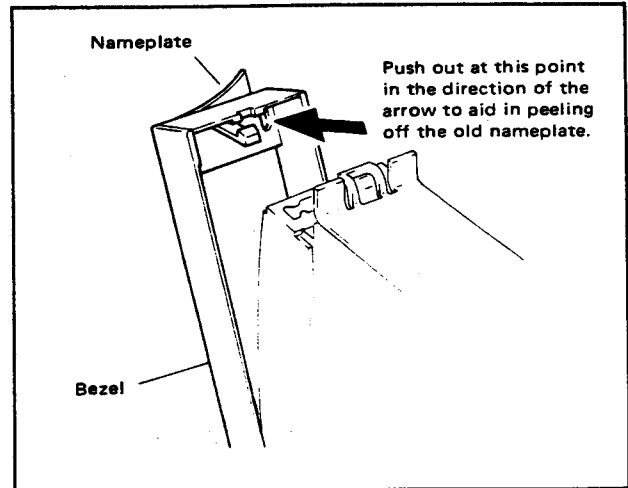

Figure 6-4. Removing the Nameplate.
- (2) Peel off the nameplate by pushing it outward from the inside of the bezel with a pair of tweezers. (See Figure 6-4.)